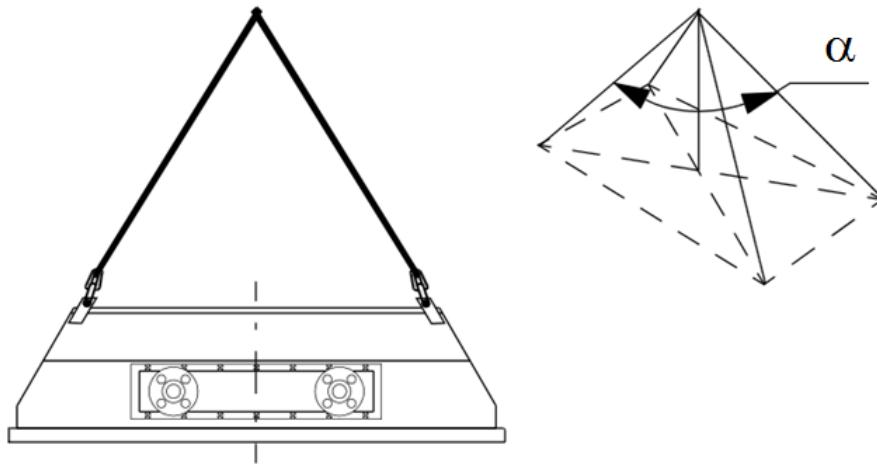
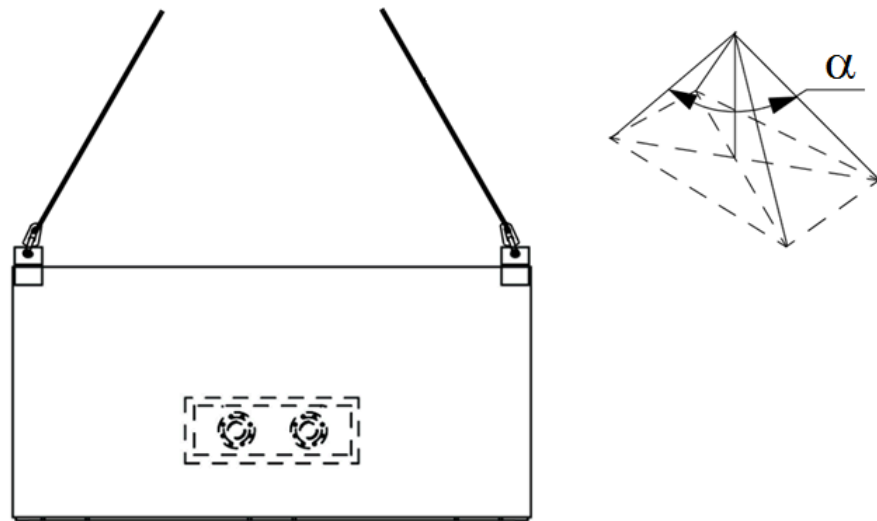
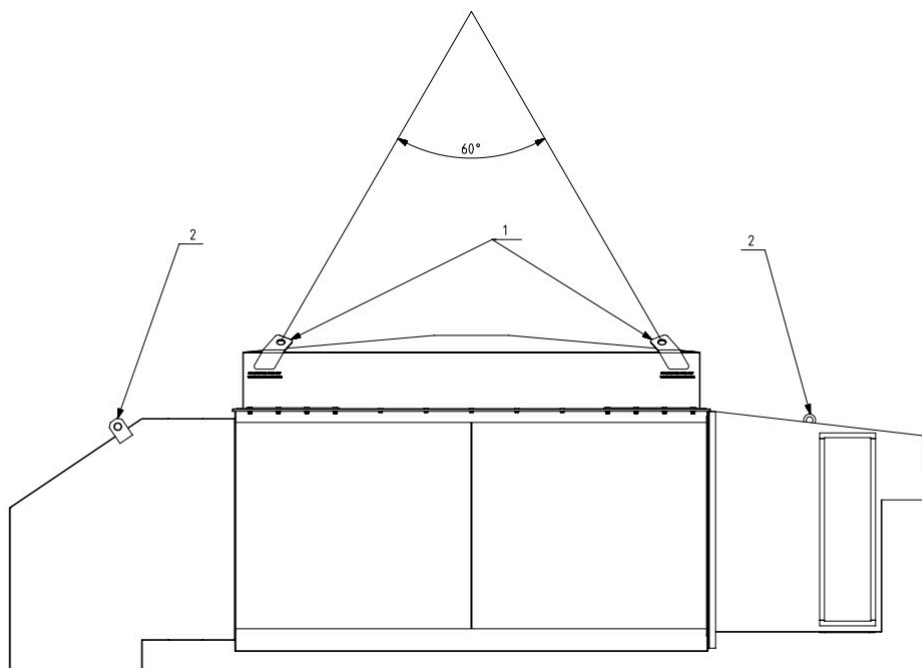

Figure 10 Lifting the roof of the cooler top, 4 lifting points, max. $\alpha = 90^\circ$
Figure 11 Lifting the cooler top, 4 lifting points, max. $\alpha = 90^\circ$
Figure 12 Air-to-air cooler top example
When lifting the cooler top only, remove the cooler top roof first, if removable. Use lifting lugs as shown in Figure 10 Lifting the roof of the cooler top, 4 lifting points, max. $\alpha = 90^\circ$, Figure 11 Lifting the cooler top, 4 lifting points, max. $\alpha = 90^\circ$, and Figure 12 Air-to-air cooler top example.
Use lifting eyes marked with **1** on Figure 12 Air-to-air cooler top example only for lifting the cooler top roof, if the roof is removable. Lifting eyes for lifting the actual cooler top are located under the top roof and will be visible after removing the top roof, in case it is removable. Use lifting eyes marked with **2** for lifting the removable air guides or silencers of the cooler top.
- Use lifting eyes marked with **1** on Figure 12 Air-to-air cooler top example only for lifting the cooler top roof, if the roof is removable.
- Use lifting eyes marked with **2** on Figure 12 Air-to-air cooler top example for lifting the removable air guides or silencers of the cooler top.